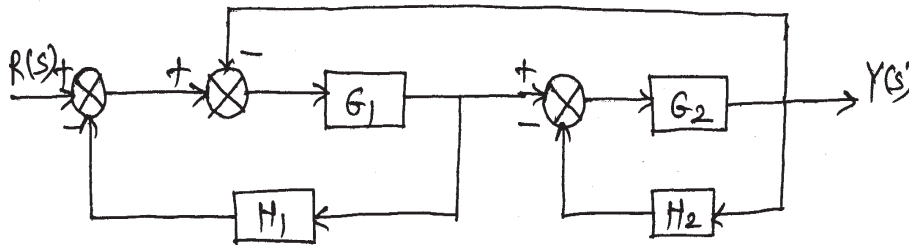

Figure No.1
b) Obtain the transfer function $Y(s)/R(s)$ using block diagram reduction rules for the system shown in figure No.1 [8]